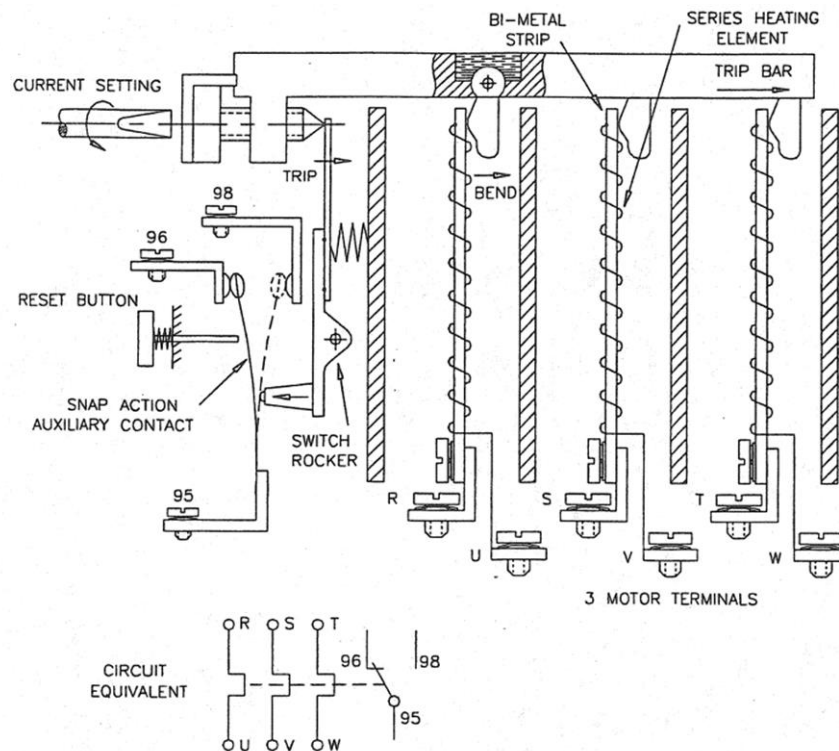

Figure 2 - General construction of a typical overload relay.
19. A thermal overload relay makes use of the fact that a bi-metallic strip bends in a particular direction when heated, and returns to its original condition when it has cooled. Figure 2 shows an outline of the general construction of a typical overload relay, and the equivalent circuit in symbol form.
20. In Figure 2, all the line current to the motor passes through the series heating element in each phase, causing the bi-metal strips to heat up and bend in a clockwise direction - moving the insulated trip bar to the right. When one or more of the bi-metal strips reaches a pre-set position the movement causes the switch rocker to pivot, opening the snap action auxiliary contact between terminals 95 and 96 and closing the contacts between 95 and 98. Manually pressing the reset button after an overload has occurred resets the overload to its original condition. The current at which the overload trips can be adjusted to any value within the limits of the particular heaters installed in the overload relay.